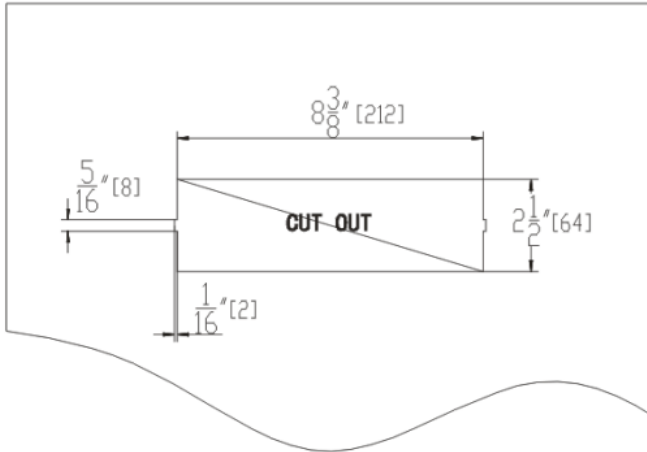

Fig. 1 - Cut-Out Dimensions
- 5.1 To mount the Source Capture® Vent, cut an opening in table-top or preferred mounting surface. The dimensions of the cut-out are 8-3/8" x 2-1/2", as shown in Fig. 1.